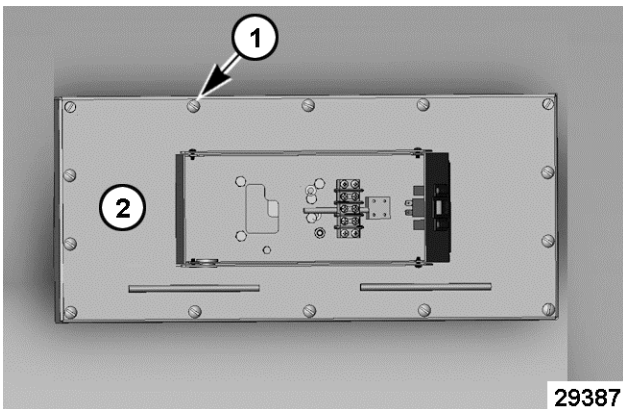

Fig. 32
4. Remove 12 screw (1, Fig. 32) securing platen cover assembly (2, Fig. 32) to clamshell assembly.